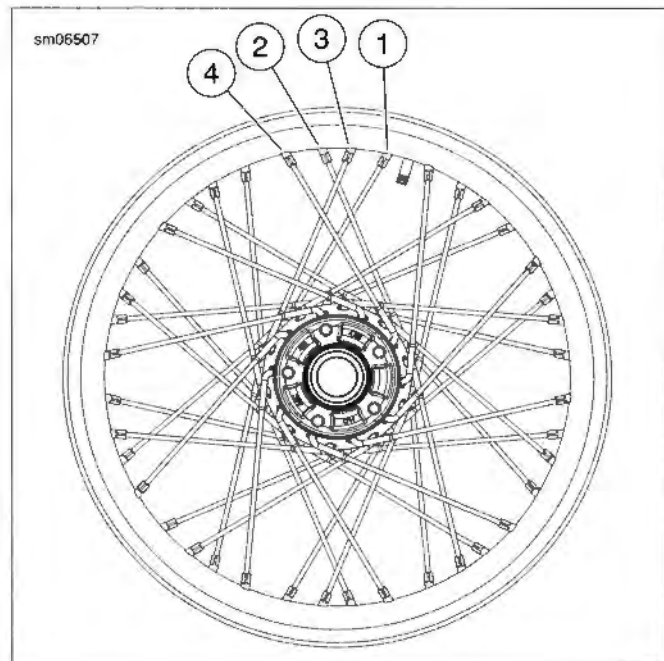

Figure 1-11. Tightening Laced Wheels (Typical)
1. See Figure 1-11. Starting at the valve stem, identify the first group of four spokes (1-4).
1. See Figure 1-11. Starting with the first group of spokes, loosen spoke (1) using SPOKE NIPPLE WRENCH (Part No. HD-94681-80) 1/4 turn.
2. Using SPOKE TORQUE WRENCH (Part No. HD-48985) tighten spoke (1) to the value listed in Table 1-8.
3. Repeat previous two steps for spoke (4) in the same group.